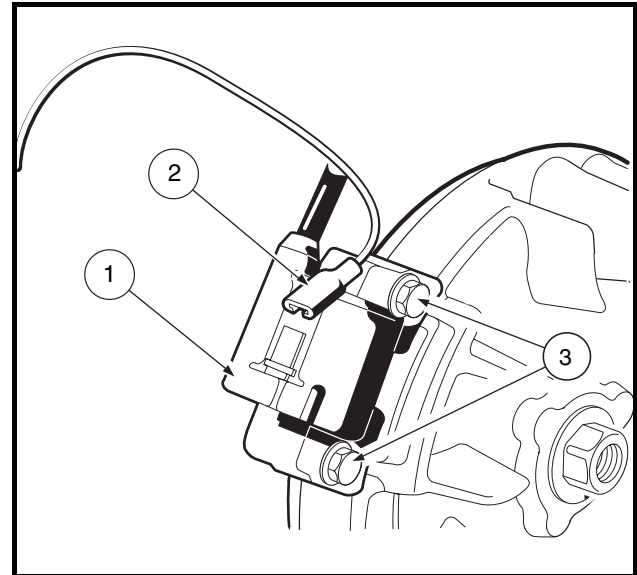

Figure 13-6 Ignition Coil
3. Disconnect the ignition coil (1) from its primary lead wire at the connector (2). Remove the two bolts (3) and take out the ignition coil (**Figure 13-6, Page 13-8**).